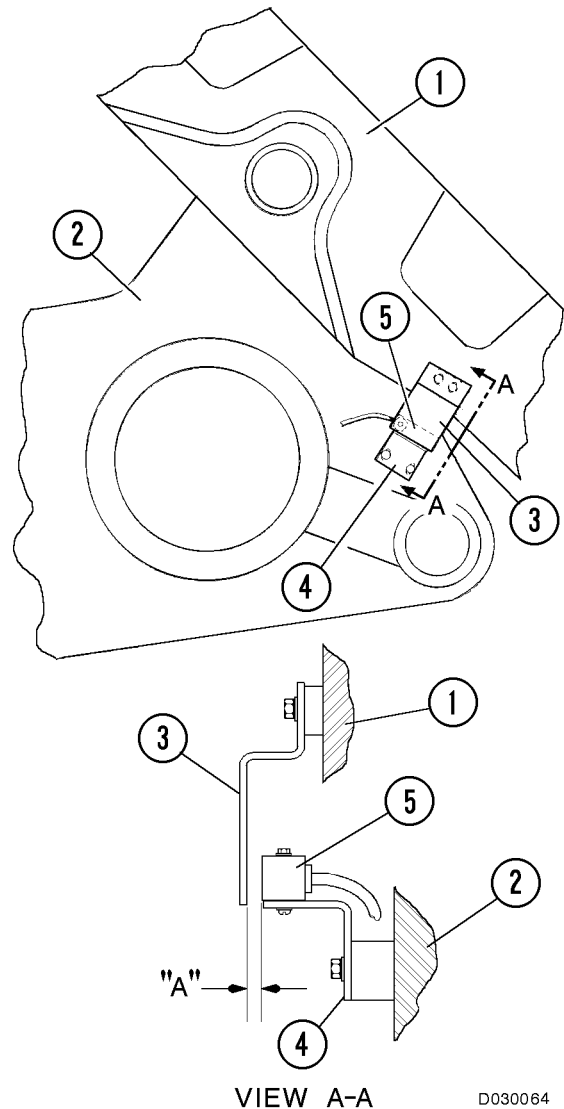

FIGURE 30-2. HOIST LIMIT SWITCH
2. Adjust the hoist limit switch to achieve an air gap (dimension "A", Figure 30-2) of 12.70 to 14.30 mm (0.50 to 0.56 in.) between the sensing area and actuator arm (3). Tighten the cap screws.